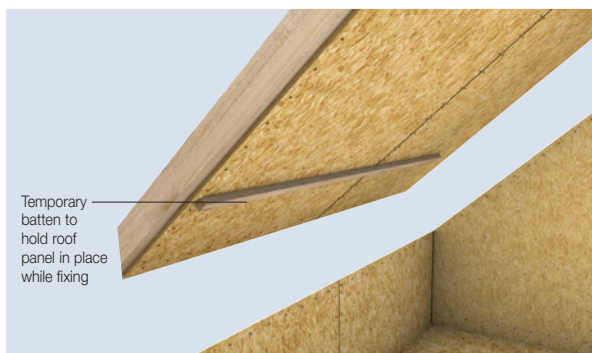

Figure 25b Timber Battens on Internal Face of Roof Section
*Hint: Attach timber battens to the internal face of the **Kingspan TEK® Building System** roof sections immediately above the lines of support to act as locators when positioning the roof and to facilitate attachment to the walls / beams. This is illustrated in Figure 25b.*